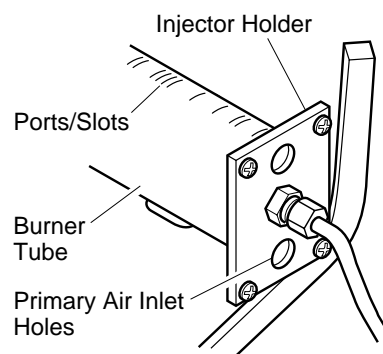

Figure 47 - Injector Holder On Outlet Burner Tube
2. Inspect burner, pilot, and primary air inlet holes on injector holder for dust and dirt (see Figure 47).